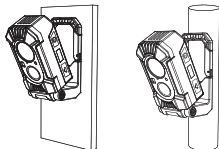

FIGURE 2
- 2 sets of strong magnets, allowing attachment to various metal surfaces (flat or curved) (Figure 2)